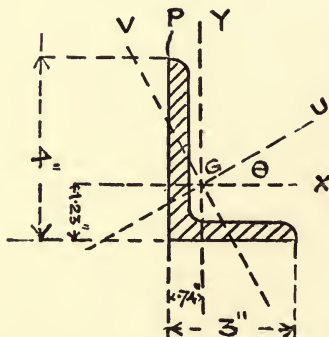

Fig. 3.
7. Fig. 3 is the section of an unequal angle iron. This angle iron is subjected to a bending moment  $M$  inch tons, the plane of the bending moment having  $GY$  as its trace. Calculate the longitudinal stress at the point  $P$ .